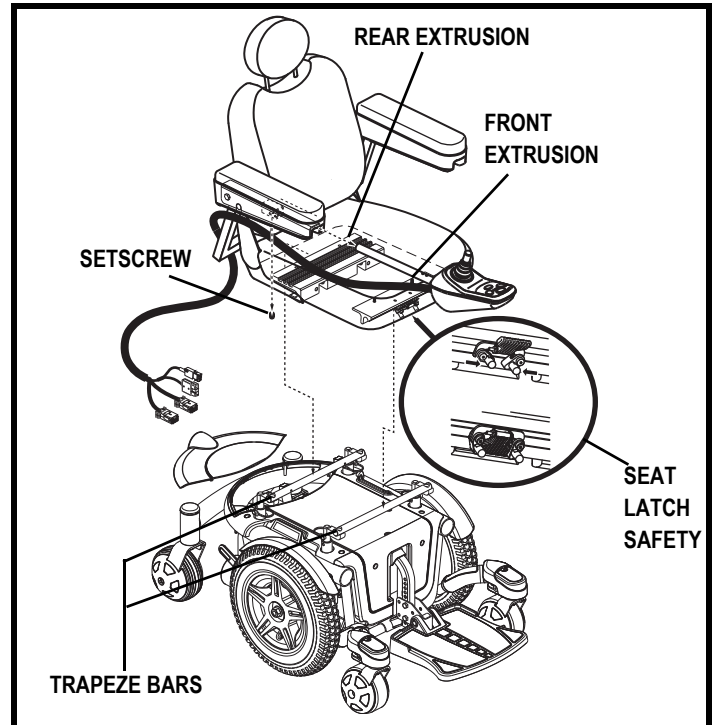

Figure 11. Universal Mounting System
It may be necessary to install the seat either prior to initial operation or after transporting your power chair. Most seats are attached to the power base with the Universal Mounting System (UMS). The UMS consists of universal parts that may be attached to any medium-back or high-back seat, regardless of seat width or seat depth. The two main components are aluminum extrusions mounted to the seat base. These extrusions attach to a pair of trapeze bars that are mounted to the power base. See figure 11.
1. Tilt the seat back and slide the rear extrusion onto the rear trapeze bar. See figure 11.
4. Install the controller into one of the armrests. Tighten the setscrew. See figure 11.